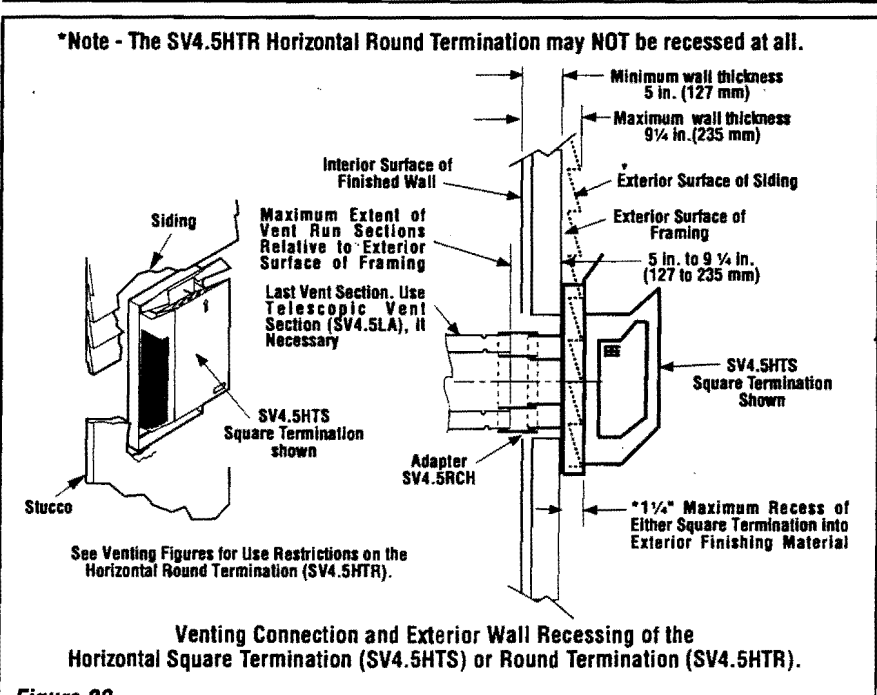

Figure 32
**J. Assemble vent run to exterior wall** - If not previously measured, locate the center of the vent at the exterior wall. Prepare an opening as described in Step B. Assemble the vent system to point where the terminus of the last section is within 7 in. (178 mm) to 11 1/4 in. (286 mm) inboard of the exterior surface to which the SV4.5 HTS termination is to be attached, see Figure 32. If the terminus of the last section is not within this distance, use the telescopic vent section SV4.5LA, as the last vent section. For wall thicknesses greater than that shown in Figure 32, refer to Table 3 on page 17. This table lists the additional venting components needed (in addition to the termination and adapter) for a particular range of wall thicknesses.
**1. Install the square termination (SV4.5HTS)** - For the last step, from outside the exterior wall, slide the collars of the termination onto the adapter (the outer over the outer and the inner inside the inner) until the termination seats against the exterior wall surface to which it will be attached. Orient the housing of the termination with the arrow pointed upwards. Secure the termination to the exterior wall. The horizontal termination must not be recessed into the exterior wall or siding by more than the 1/4" (32 mm) as shown in Figure 32.